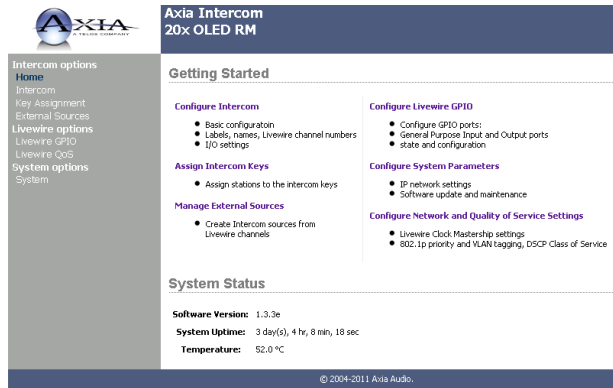

Figure 4-12
If using an Axia console, the Control Room (CR) monitor logic has active logic when the monitors are muted. This logic can be tied into the intercom station if the main GPIO port is configured to the same LW Channel logic as defined in the show profile of the Axia console. Figure 4-12 shows the busy signal is active when the monitors are muted.